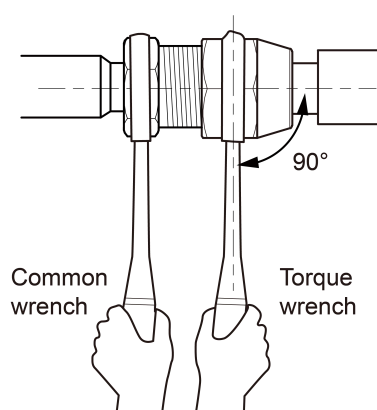

Fig. 4.5
- (3) Use torque wrench to twist on the flared nut tightly until the wrench gives out a click sound (Hold the handle of wrench and make it at right angle to the pipe. as in Fig. 4.5).